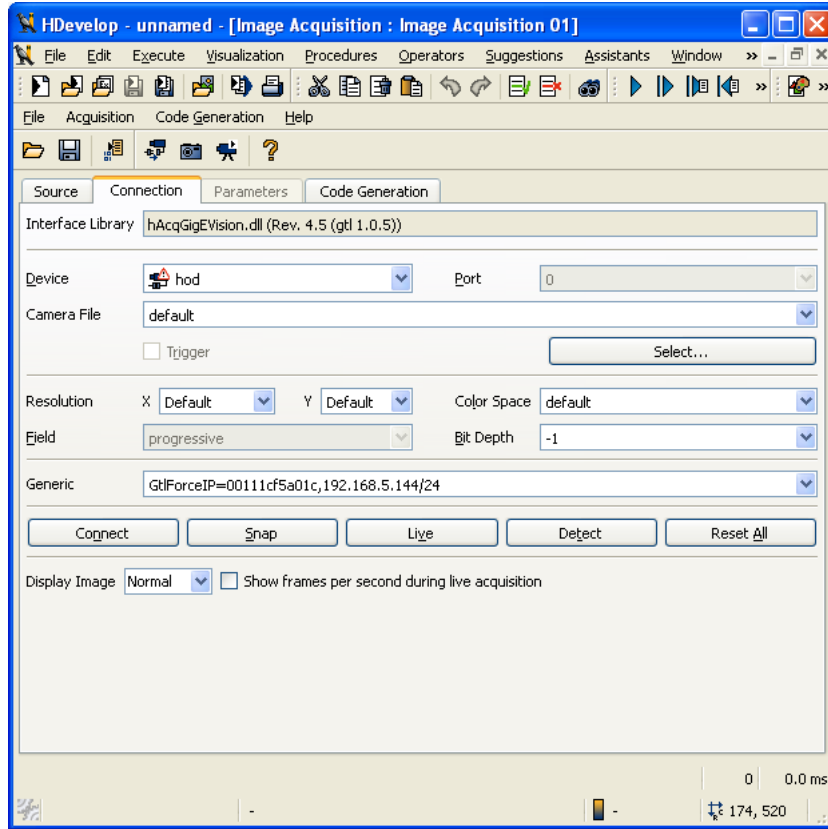

Figure 6.5: Connect to GigE Vision device
5. Select Connection tab and click on Connect (see Fig. 6.5).